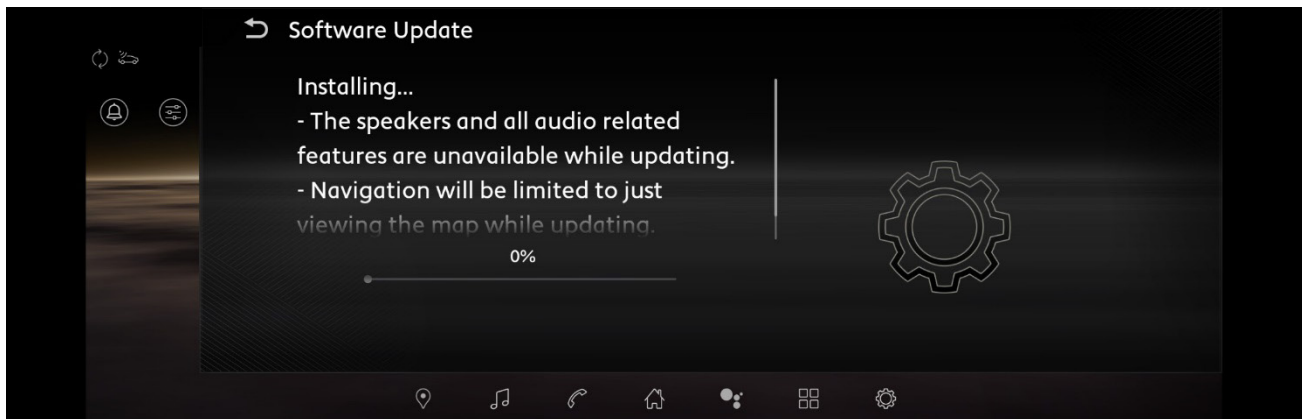

Figure 28
- Allow the update to complete (Figure 28).